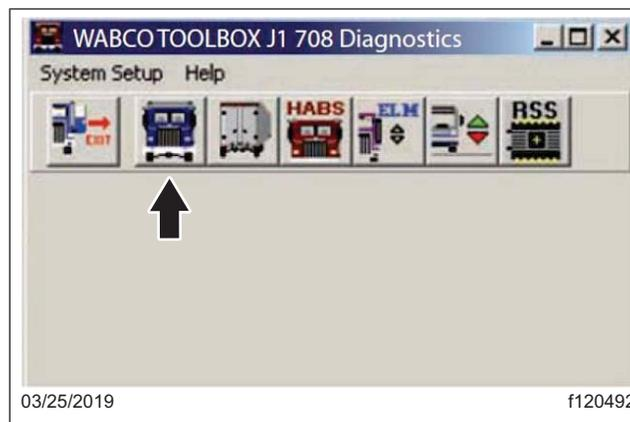

Fig. 2, WABCO TOOLBOX
2. Launch the Meritor WABCO TOOLBOX® diagnostic software and select the blue truck. See **Fig. 2**.